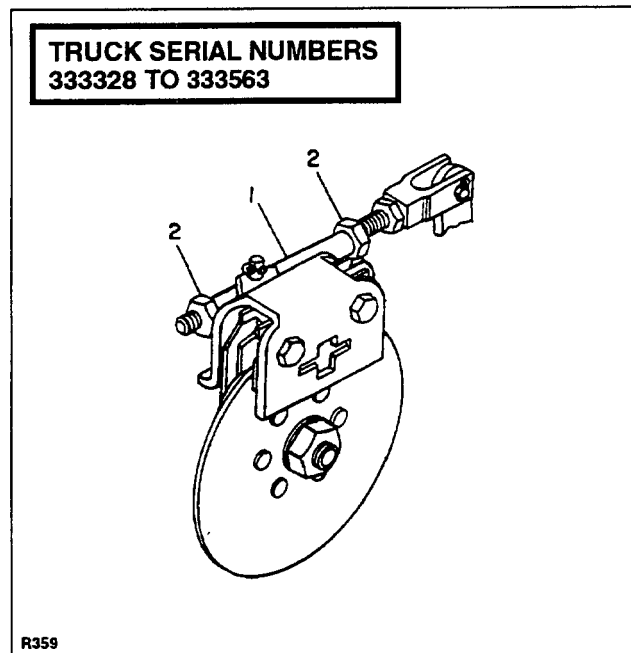

Figure 6-3. Adjustment For Truck Serial Numbers 333328 to 333563
5. Spin drive wheel by hand and position weldment tube (1, Figure 6-3) by adjusting nuts (2) until you feel a noticeable drag.